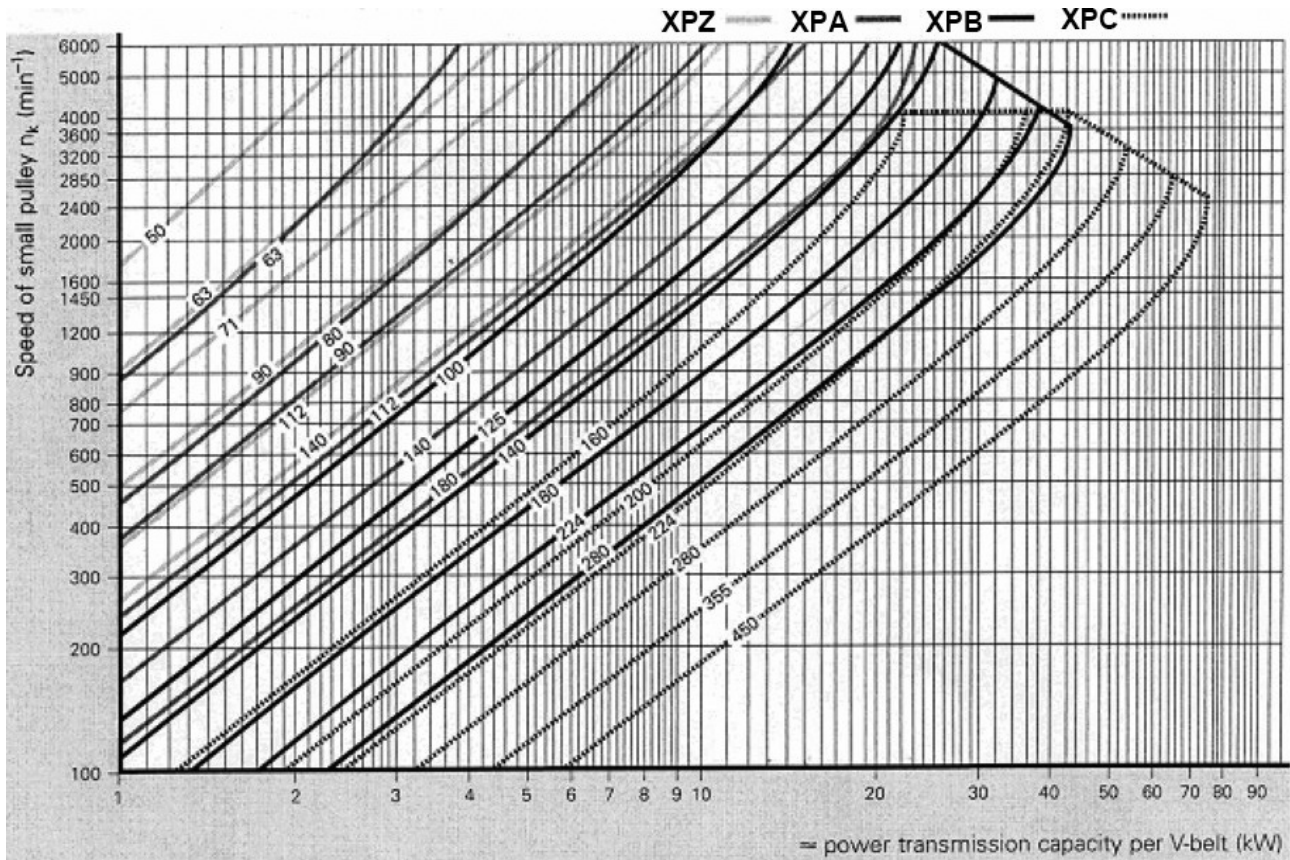
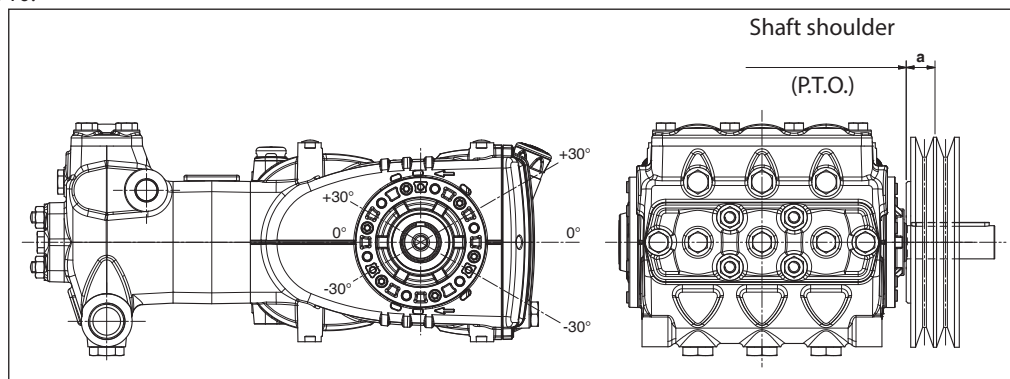

Fig. 7
Fig. 10
For this pump model, we recommend use of 2 XPB belts (16.5x13 serrated). Use an XPC profile only for long durations. Both the characteristics and transmissible power of each belt can be verified in the diagram in Fig. 7, in relation to the number of rpm normally declared by the manufacturer. Minimum duct pulley diameter (on pump shaft): ≥ 160 mm. The radial load on the shaft must not exceed 3000 N (value necessary for Layout definition). The transmission is considered adequate if the load is applied to a maximum distance $a=30$ mm from the shaft shoulder (P.T.O) as shown in Fig. 10.
- b) Use high performance belts – for example **XPB** instead of **SPB** – as a lower quantity of belts for the same transmitted power may be necessary and a consequent shorter resulting distance compared to the shaft shoulder (P.T.O) "a" of Fig. 10.